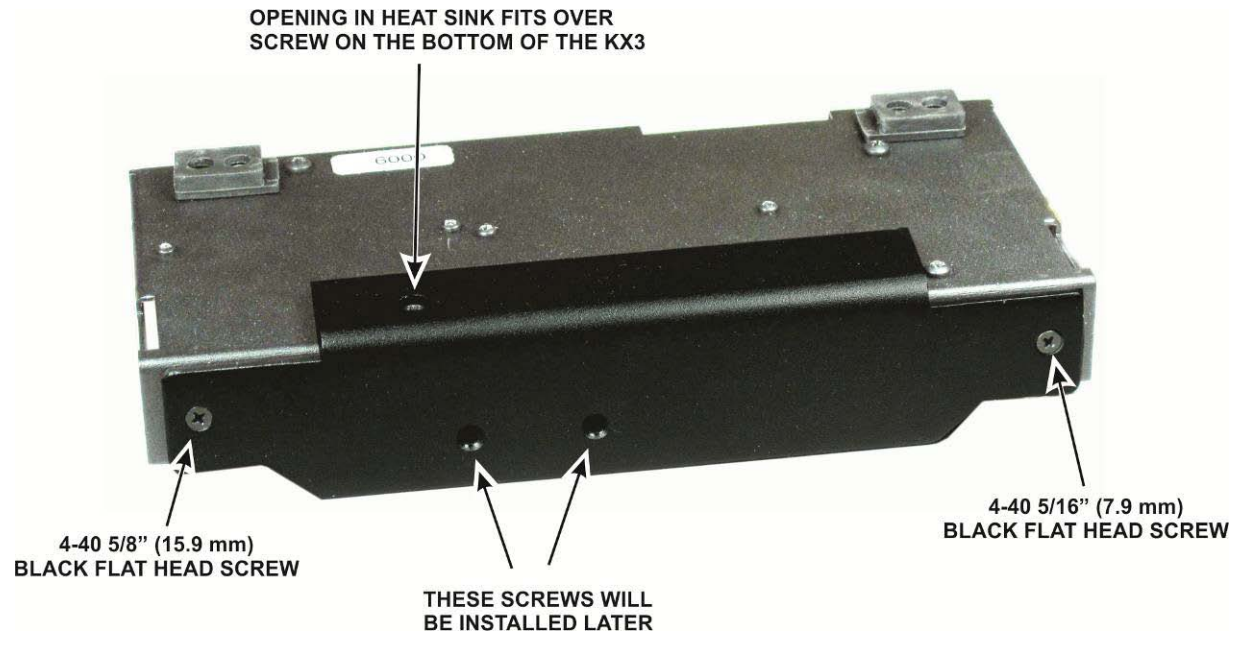

Figure 41. Mounting the Heat Sink on the Bottom Cover.
□ Place the KX3 bottom cover assembly upside down as shown in Figure 41. Attach the cover with the black flat head screws as shown. Carefully place the heat sink on the enclosure and secure it with the screws shown. The thermal pad presses against the powder coating on the bottom cover. Although the thermal pad is tacky, the heat sink can be moved as needed to align the screw holes.